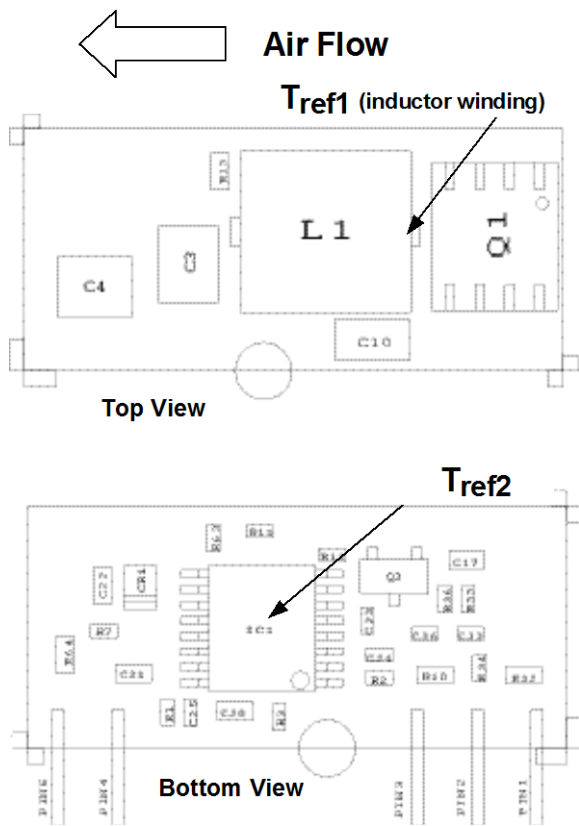
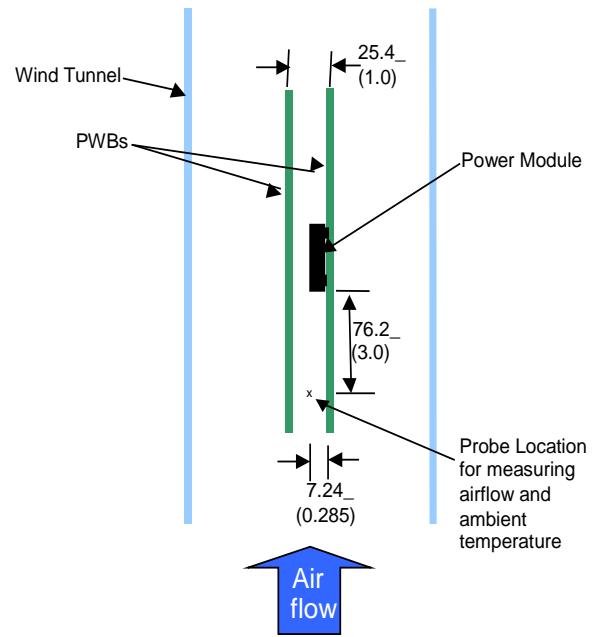

Figure 32. Tref Temperature measurement location.
Figure 33. Thermal Test Set-up.
To provide over temperature protection in a fault condition, the unit relies upon the thermal protection feature of the controller IC. The unit will shutdown if the thermal reference point T_{ref2} , (see Figure 33) exceeds 140°C (typical), but the thermal shutdown is not intended as a guarantee that the unit will survive temperatures beyond its rating. The module will automatically restarts after it cools down.
Considerations include ambient temperature, airflow, module power dissipation, and the need for increased reliability. A reduction in the operating temperature of the module will result in an increase in reliability. The thermal data presented here is based on physical measurements taken in a wind tunnel. The test set-up is shown in Figure 33. Note that the airflow is parallel to the long axis of the module as shown in Figure 32. The derating data applies to airflow in either direction of the module’s long axis.
The thermal reference point, T_{ref1} used in the specifications of thermal derating curves is shown in Figure 32. For reliable operation this temperature should not exceed 125°C.